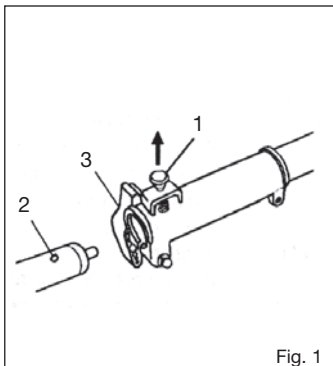

Fig. 1
2. Make sure the lock pin (1) fits in the location hole (2) of tube and that the tube will not come off. (Fig. 1)
3. Tighten the knob nut (3) securely. (Fig. 1)